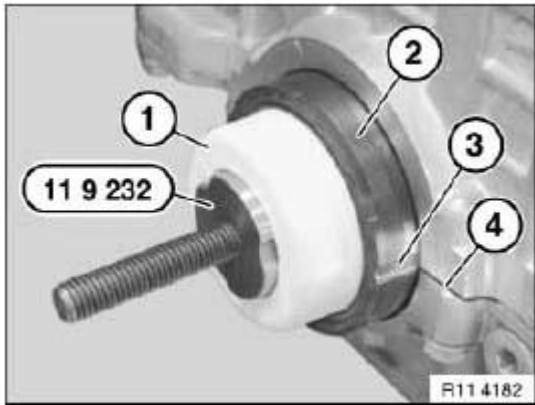

Fig. 70: Pushing Support Sleeve With Radial Shaft Seal Onto Special Tool
Push support sleeve (1) with radial shaft seal (2) onto special tool 11 9 232. See **Fig. 70**.